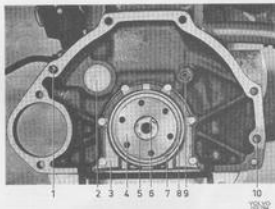
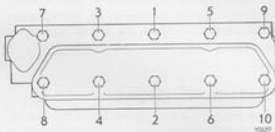
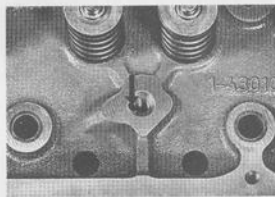
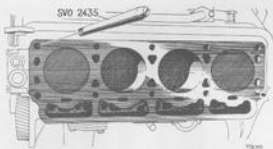

Fig. 2-27. Rear end of engine
Fig. 2-28. Tightening sequence for cylinder head bolts
Fig. 2-29. Oil hole in cylinder head
Fig. 2-30. Guide pins for fitting the cylinder head
The cylinder head is fitted with the help of guide pins 2435. The bolts must be tightened in a certain sequence as shown in Fig. 2-28, in order to avoid unnecessary stresses. Check that the oil hole (Fig. 2-29) for lubricating the rocker arms is clear. The pilot bearing (5, Fig. 2-27) should be lubricated before fitting with heat-resistant ball bearing grease. The bearing and protecting washer are held in position by a circlip (6).
9. Fit the valves. Screw the guide pins 2435 into the block, one in the front right-hand hole and the other in the left-hand rear hole, see Fig. 2-30. Install a new cylinder head gasket with the "TOP" upwards (wide edge). Install new sealing rings for the water pump and fit the cylinder head. Screw out the guide pins and fit the bolts in these holes as well. For tightening sequence, see Fig. 2-28. Tightening should be in three stages: 1st stage 40 Nm (29 lb ft); 2nd stage 80 Nm (58 lb ft); 3rd stage: after running the engine, see point 10. Fit the other parts. Fill up with coolant according to the instructions given under "Filling with coolant when the system has been emptied".
19. Screw the guide pins 2435 into the block, one in the front right-hand hole and the other in the left-hand rear hole, see Fig. 2-30. Install a new cylinder head gasket with the "TOP" upwards (wide edge). Install a new inlet duct gasket and new sealing rings for the water pump. Fit the cylinder head. Screw out the guide pins and fit the bolts in these holes as well. For tightening sequences, see Fig. 2-28. Tightening should be in three stages: 1st stage 40 Nm (29 lb ft); 2nd stage 80 Nm (58 lb ft); 3rd stage: after running the engine, see point 34.